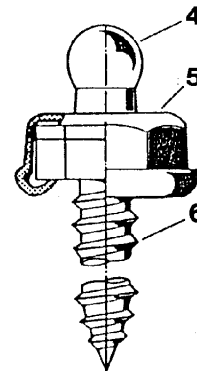

Figure 2
The lower part (Figure 2) consists of a ball-head (4) hexagon head (5) and threaded piece (6). In the snapped state the three tension springs surround the ball-head of the lower part and guarantee optimal retainment.